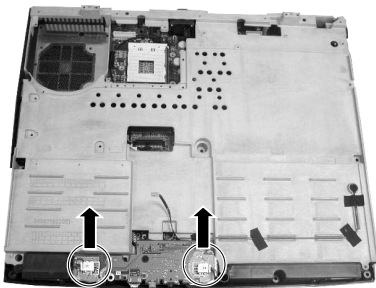

Figure 2-25 Remove the screws
6. Disconnect two cables from the jack board. (Figure 2-25)